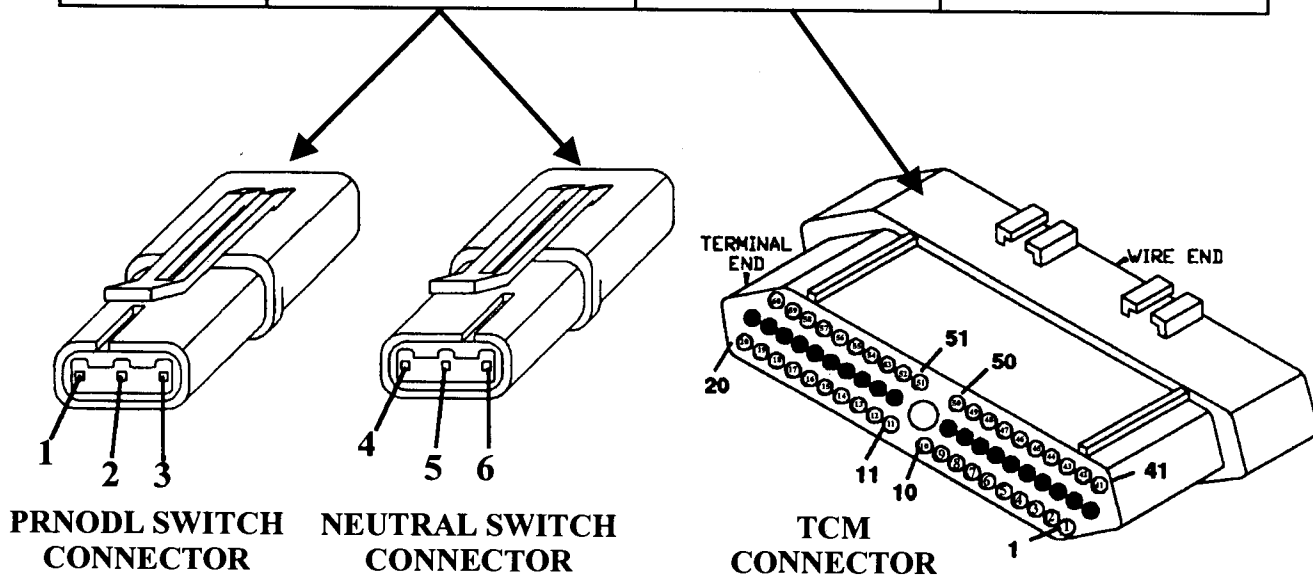

Figure 38
- If the connectors check good, use the chart found in Figure 38 to perform continuity checks across each individual circuit.